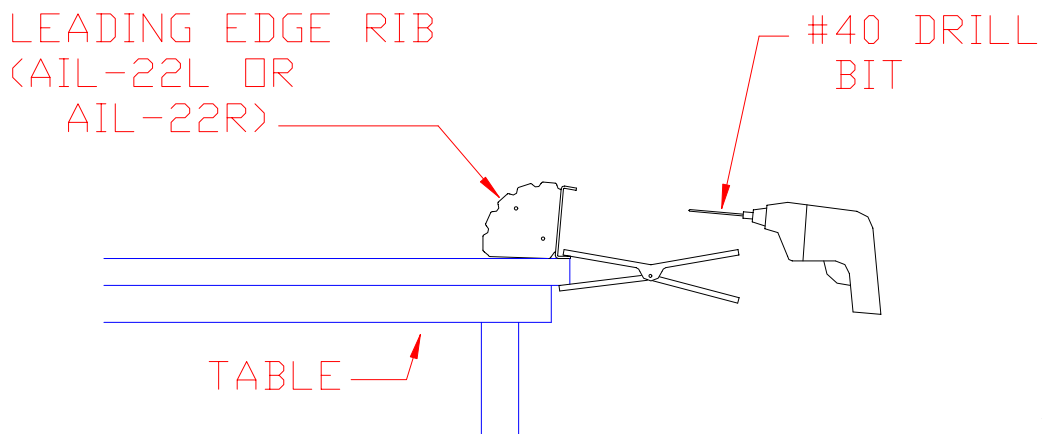

Figure 7.2.3
- 4) Place a Leading Edge Rib (AIL-22L or AIL-22R) in front of the spar. End ribs must be flush with the ends of the spar. Make sure you can see the line drawn on the rib when looking through the factory punched holes in the Aileron Spar. Figure 7.2.3.
- 7) Remove the Leading Edge Rib at location #13. Drill a series of rivet holes as shown in Figure 7.2.3.